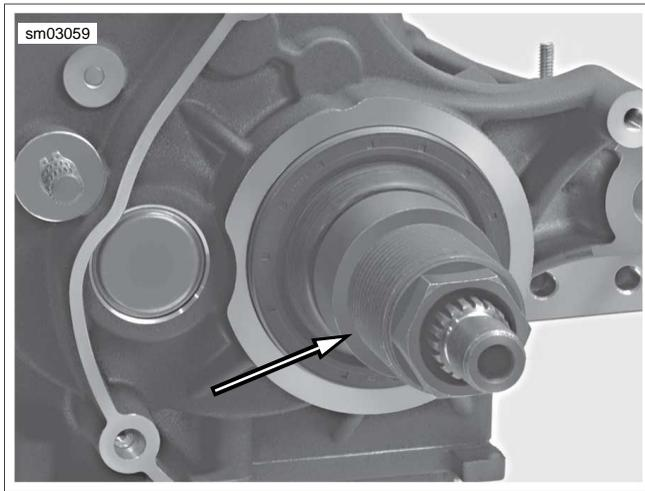

Figure 7-51. Install Adapter
- See Figure 7-51. Thread ADAPTER (Part No. HD-47856-3) onto end of main drive gear until it contacts main drive gear.